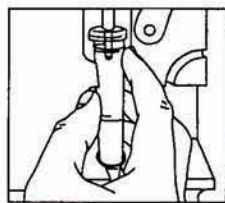

Figure 4A
5. Slide drip chamber into upper drip chamber guide (See Figure 4A).
6. Seat and secure chamber in lower drip chamber guide (A).